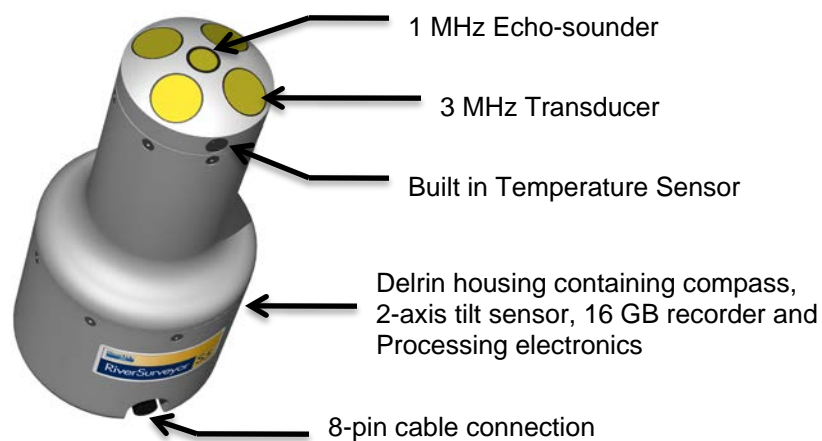

Figure 1. S5 ADP Features
- **S5** (Figure 1): This portable, 5-beam ADP with a velocity profiling range of 0.2 to 5.0 m is ideal for use in shallow channels. The S5 has a 5-inch (13-cm) diameter Delrin housing that narrows to 3.2 inches (8.1-cm). It has four 3.0-MHz velocity measurement transducers in a Janus configuration. A 1.0-MHz vertical acoustic beam (echo sounder) provides depth data.